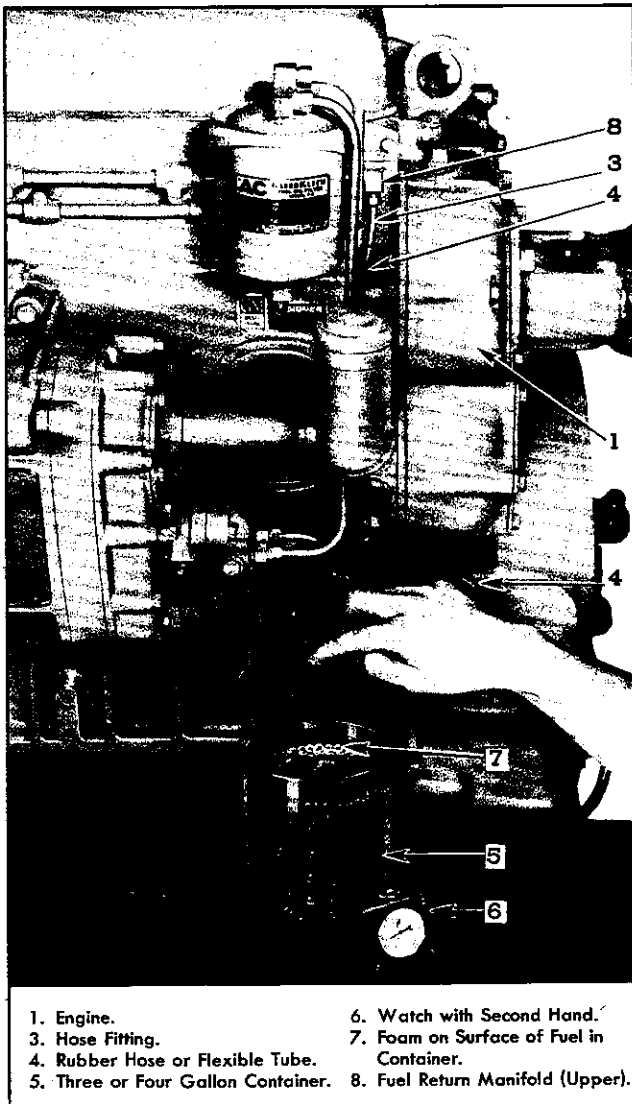

Fig. 35—Connections for Measuring Quantity of Fuel and Checking Air in Fuel System from Fuel Return Manifold.
- (a) After connecting one end of rubber hose or flexible tube to the fuel return manifold and immersing other end in a large container as illustrated in Fig. 35, start the engine and run at 1200 engine R.P.M. Measure the fuel being returned from manifold, which should be approximately one half gallon per minute; also, observe if air is being pumped through the fuel system as will be indicated by air bubbles appearing as foam on fuel in container.